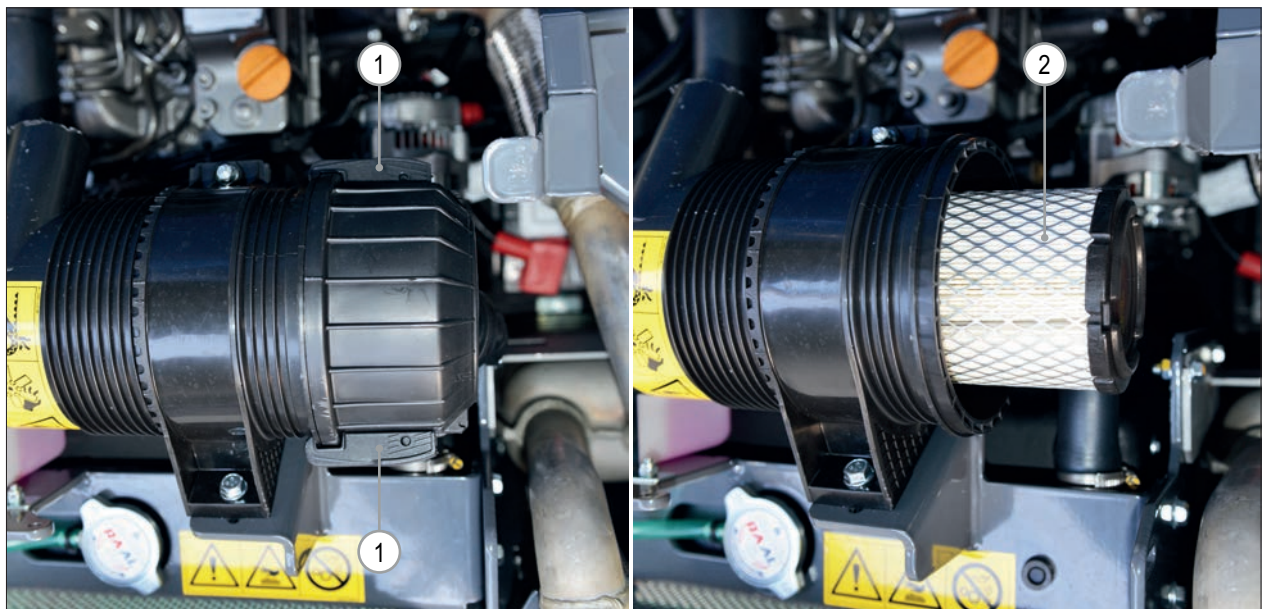

FIG. 62
- 4) Unhook the retaining clips and remove the end cap (FIG. 62 - Ref. 1).
- 5) Check the air cleaner element (FIG. 62 - Ref. 2), if cleaning is needed do it with low pressure air jets or replace with new genuine spare part.